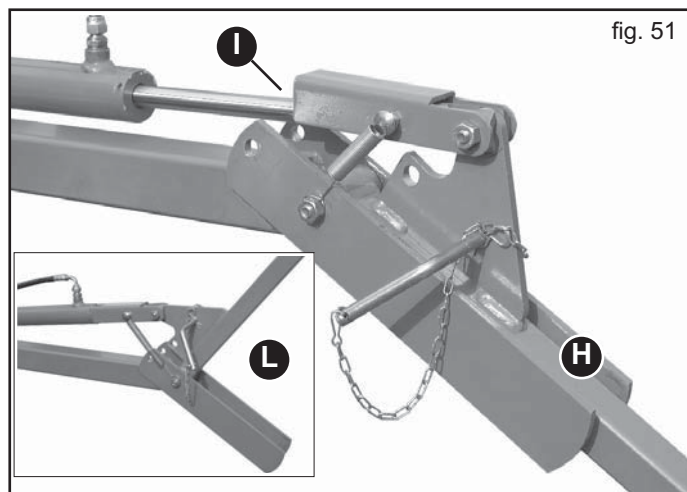

fig. 51
- 3) Actuate the hydraulic system and bring the harrow arms to the end of their travel (H, Fig. 51).
- 5) Make sure the clamp is positioned properly along the cylinder rod (I, Fig. 51).
The last operation allows the seed-covering harrow to be partially raised (L, Fig. 51) and then positioned correctly when the planter is lowered again, during the turning operations in the headlands or any other manoeuvre with the machine lifted off the ground.